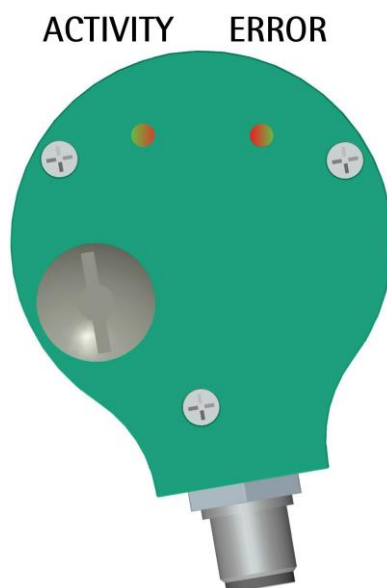

Figure 1: Diagnostic LEDs
3.4 Diagnostic LEDs (Figure 1)